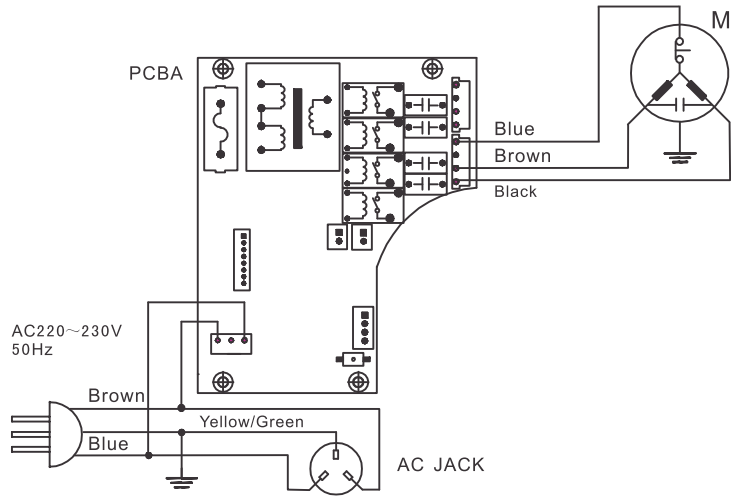

figure 8
5. Figure 8, connect the power cord and signal cord (Circuit wiring diagram 9)